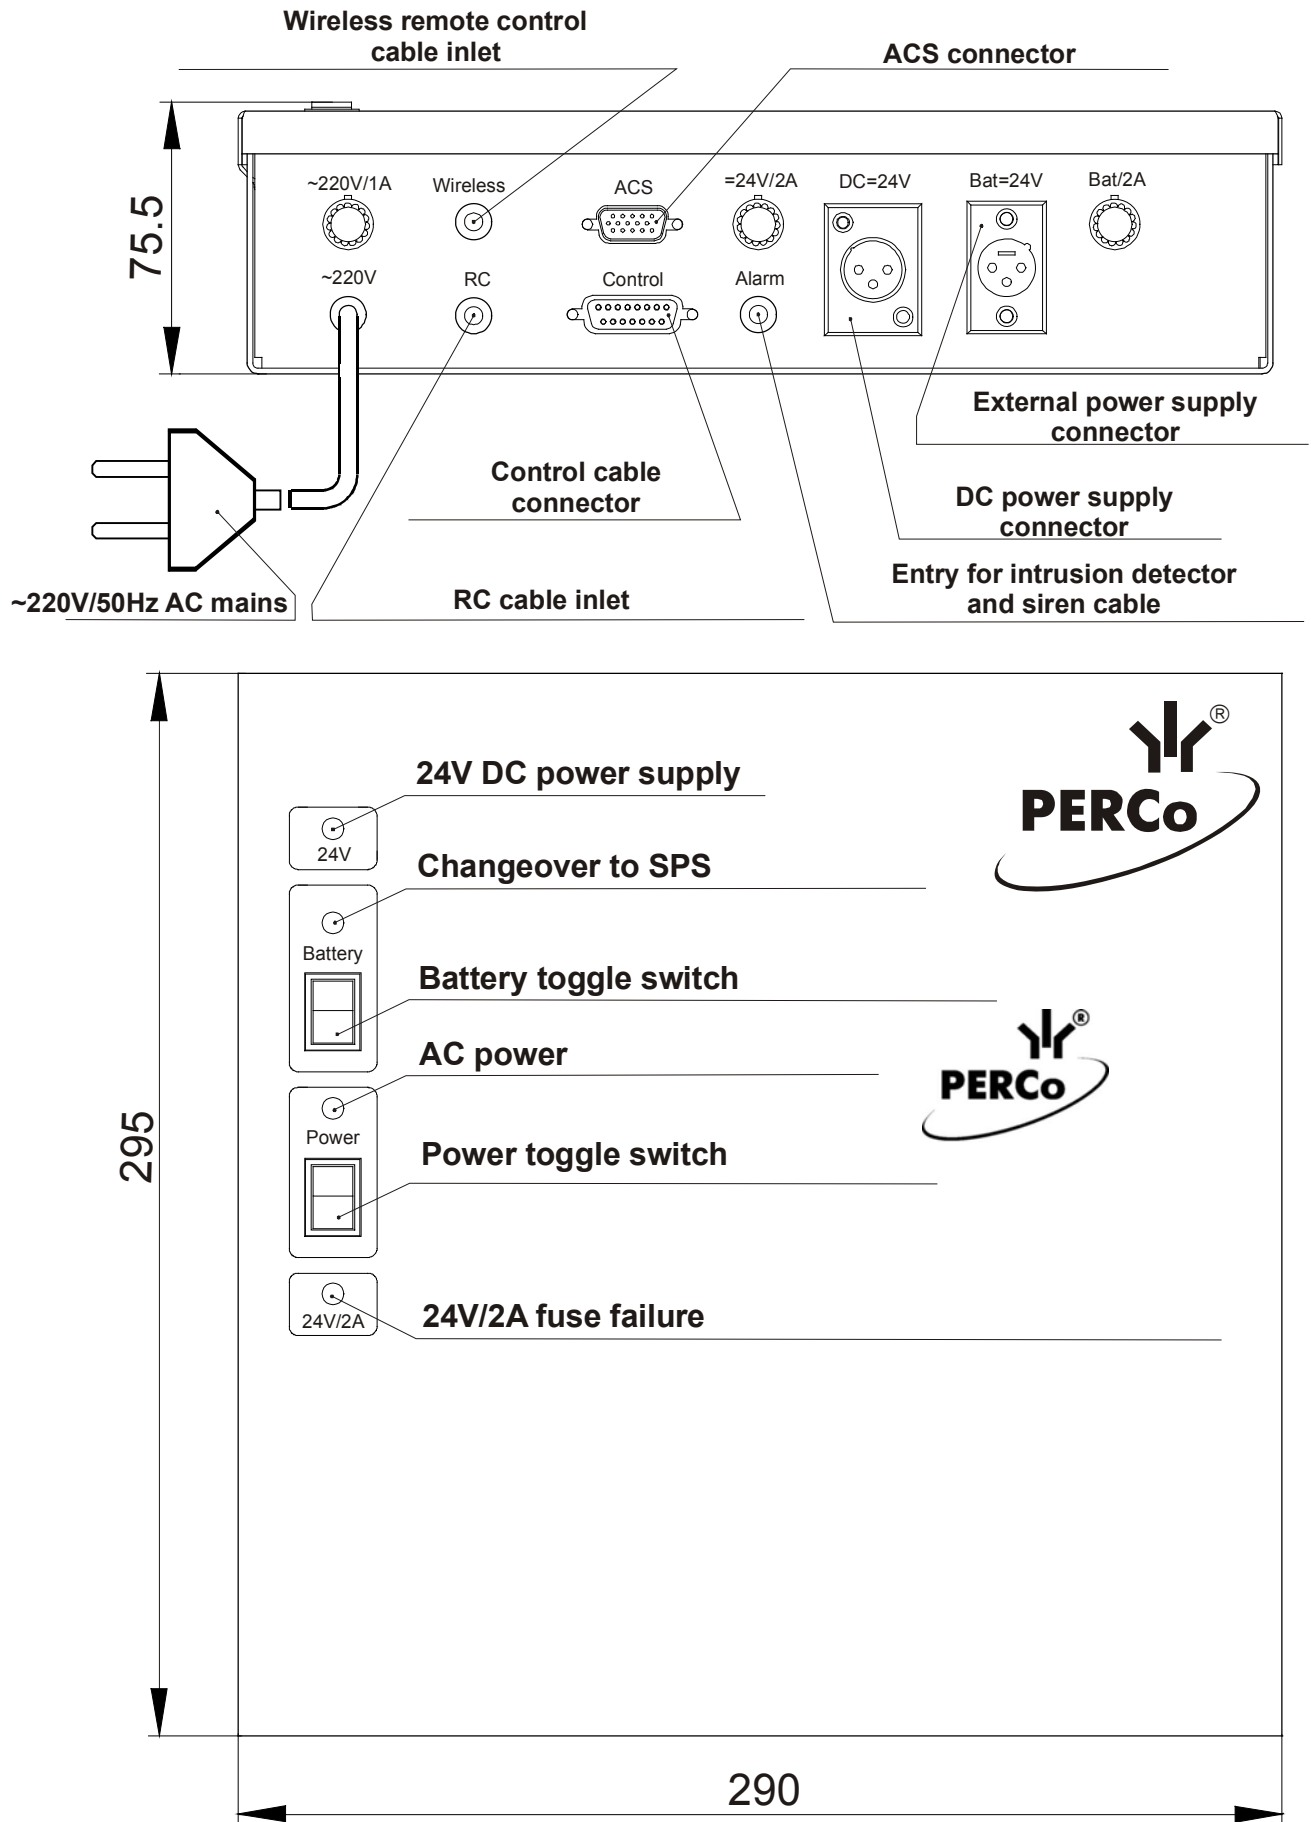

Figure 3. Control unit
The CU (see Fig. 3) comes as a stand-alone device in a metal case with the pull-resistant fasteners for wall mounting. The CU can also be desk-mounted.
5.2.8 The remote control panel (9) serves for manual setting of the operating modes and indication thereof.
It comes as a compact desktop device with a shockproof plastic case and a flexible multicore cable (12) to connect to the CU (8) via the «RC» cable entry (see Fig. 3 and Fig. 1A, Appendix A). The massive steel base to compensate for the cable weight and small antifriction feet do not let the remote control panel skid.
Located on the CU front panel (Fig. 3) are the following LED indicators:
- set the CU (8) toggle switches «Power» and «Battery» into the «0» position (Fig. 3);
- disconnect the power cable (13) from the mains;
5.6.1 An ACS controller is cabled to the «**ACS**» socket connector of the CU (Fig. 3). The ACS plug connector is included in the set of spare parts.